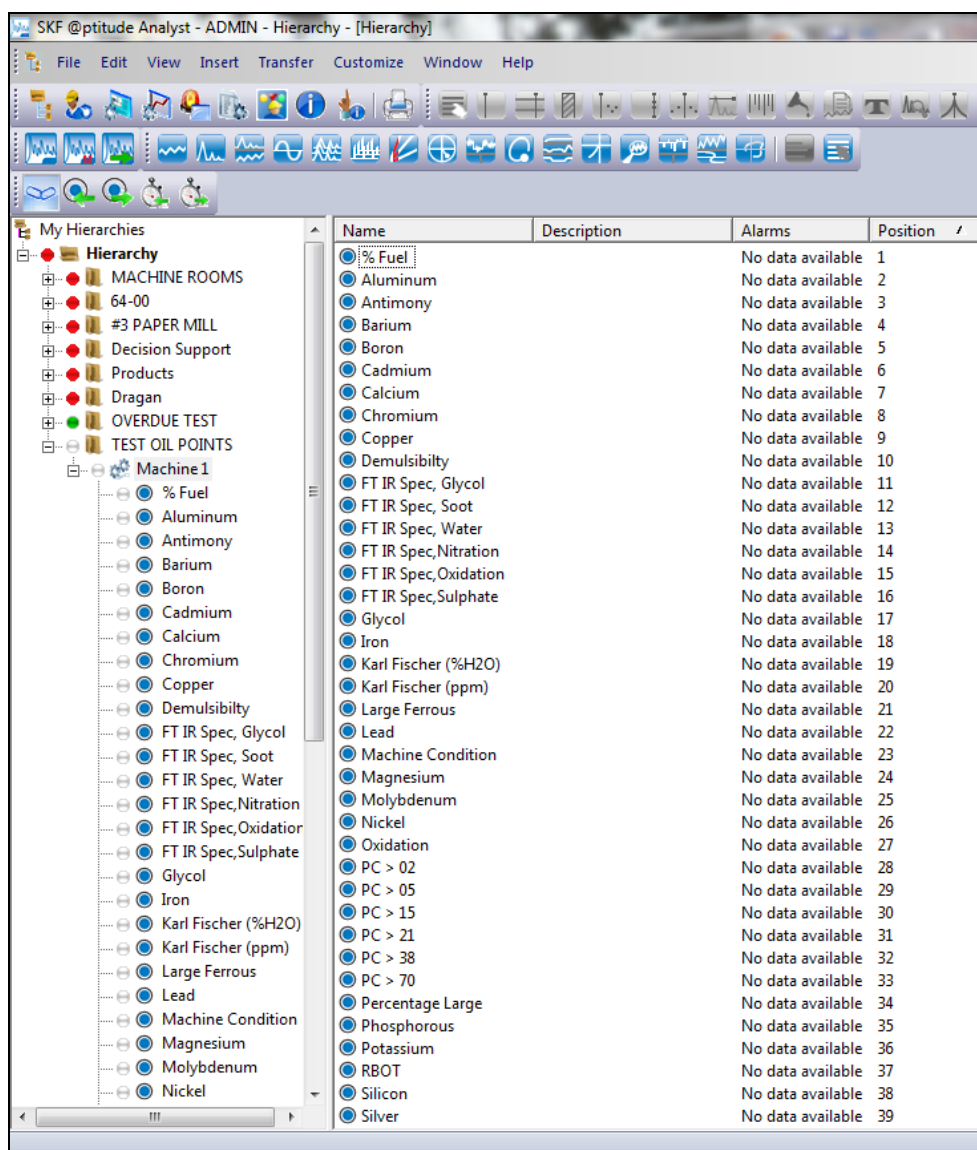

Figure 11. Trend Oil POINTs
14. Once the POINTs have finished being created [Figure 11], oil sample templates may be imported.